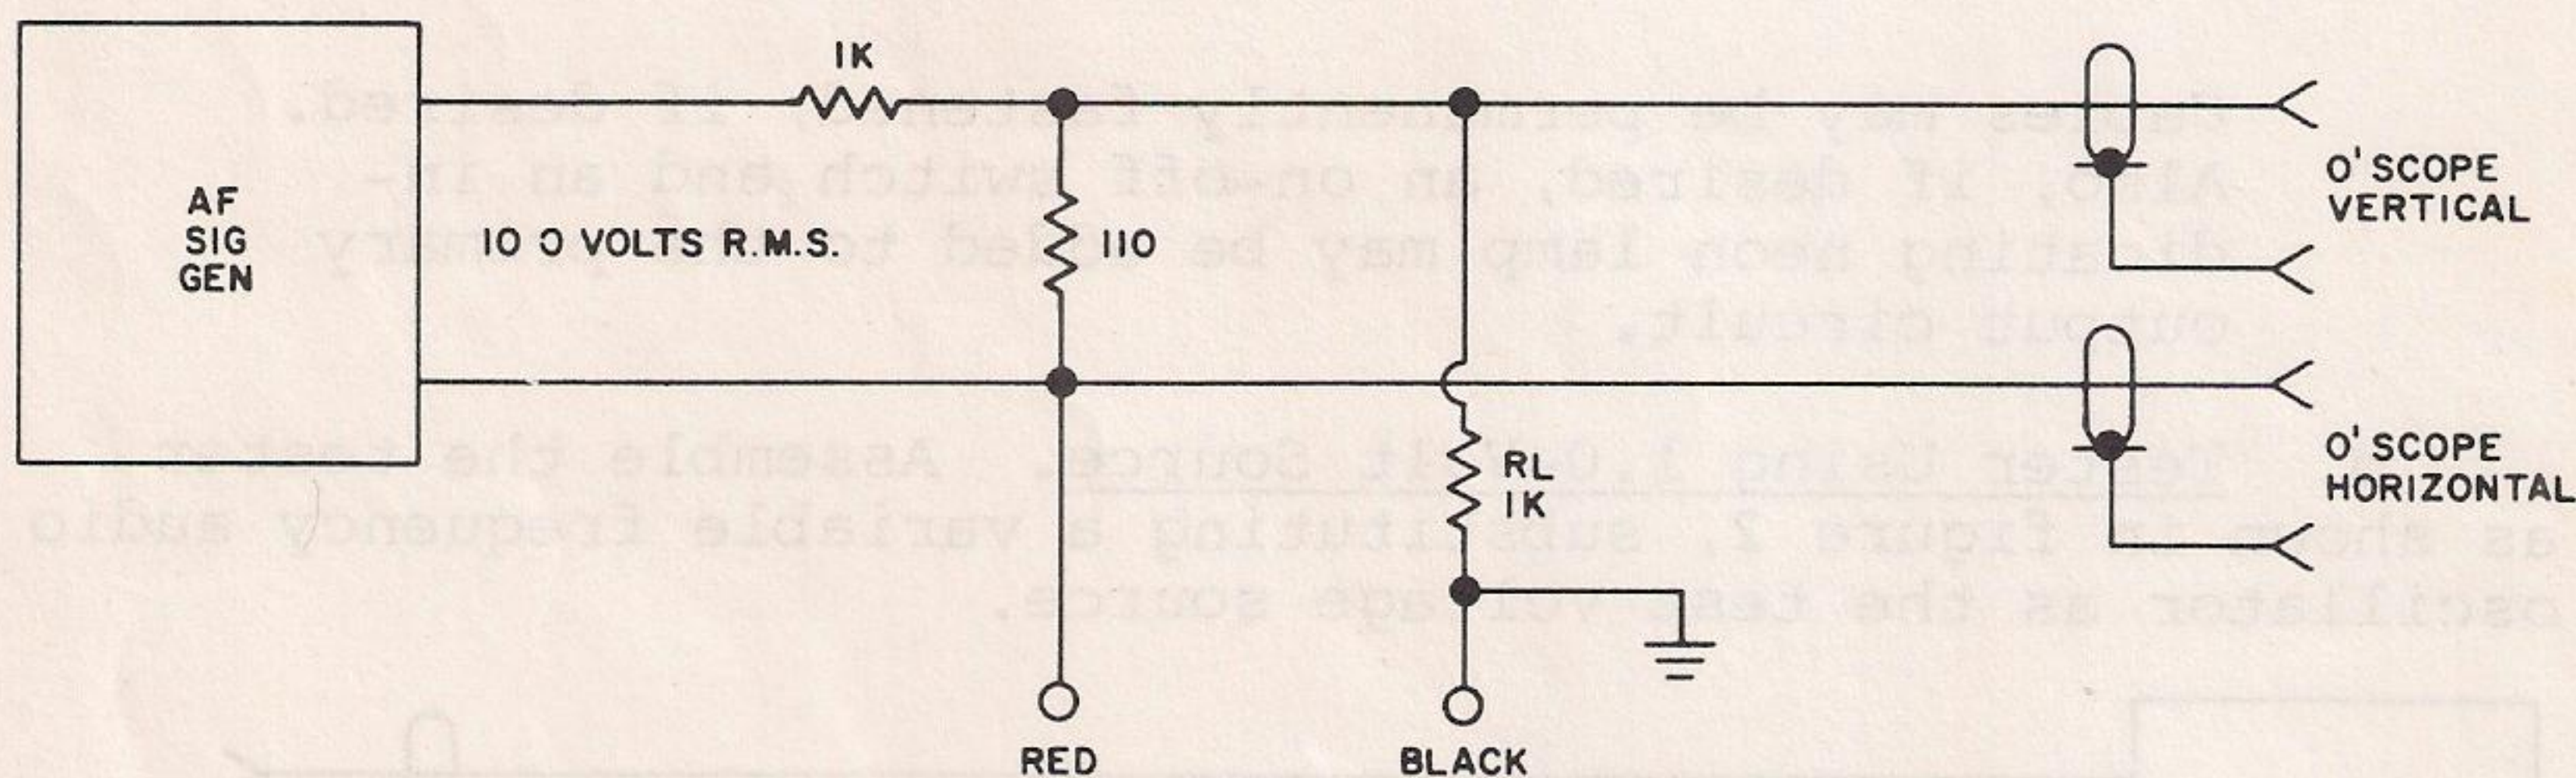

Figure 3. Tester Using 10.0-Volt Source
c. Tester With 10.0-Volt Source. Assemble the tester as shown in figure 3, which shows a 10.0-volt variable frequency audio oscillator source with proper values of resistance necessary to reduce the output to 1.0 volt.